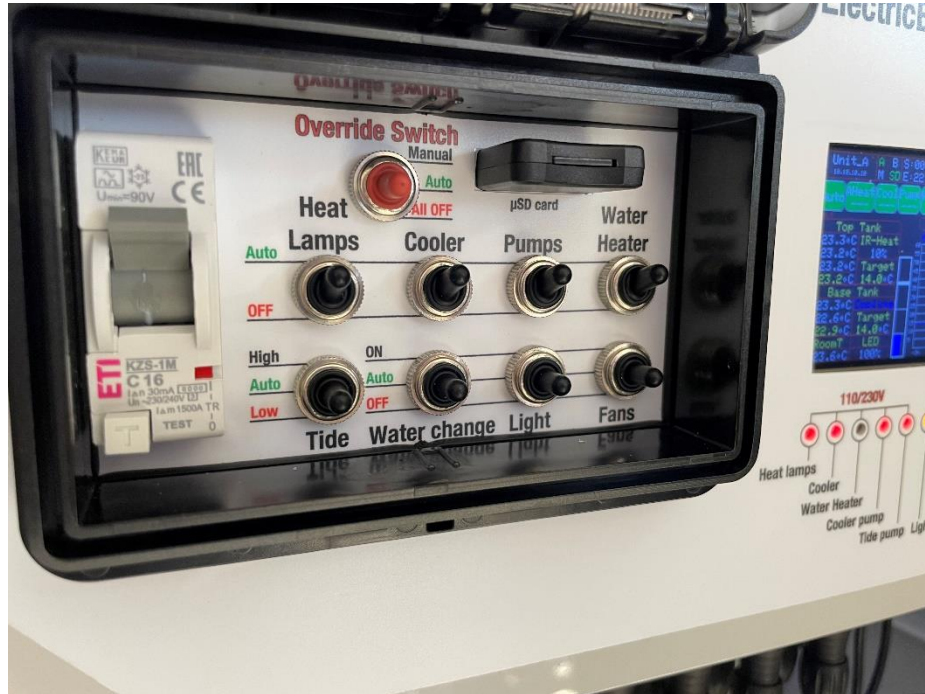

Fig. 26: Assembly step 23.
- 23- Turn the circuit breaker switch upwards to power the Intertidal chamber and you're ready to go! (**Fig. 26**). Please refer to the Intertidal chamber Manual for further information.